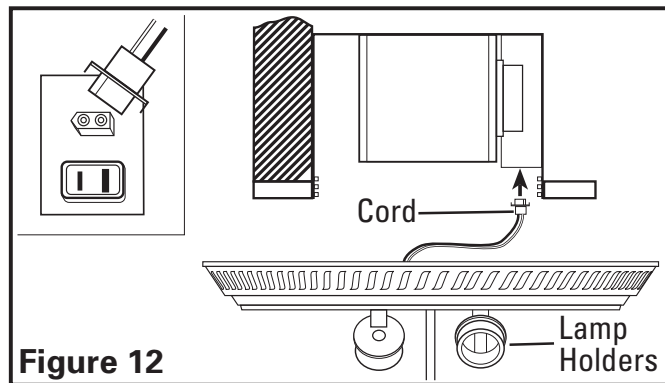

Figure 12
- Plug cord from lamp holders into the appropriate receptacle (**Figure 12**).